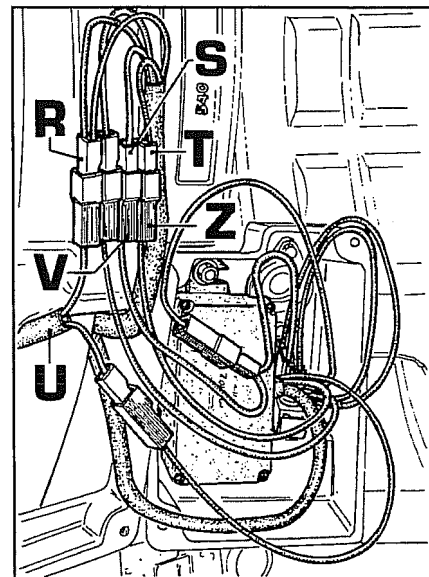

Fig. 48
5. To do this, remove the rheostat holder box on the right mudguard and turn it upside-down as shown in Fig. 48
7. Disconnect wires **R-S-T** Fig.48 from tractor wiring harness noting the connection to the central unit wiring by means of the colours. The match up is as follows:
8. Connect tractor wires **R-S-T** (Fig.48) to the raise/lower switch following this match up scheme: